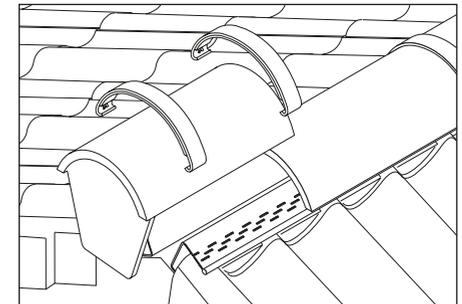

Fig. 8 – Completion at ridge
- 17 Install Segmental or Modern block end ridge by either bedding in mortar, or mechanically fixing using Marley Dry Ridge System or Universal RidgeFast. Mono-ridge block end tiles are available for mono-pitch roofs (Figs. 8 and 9).